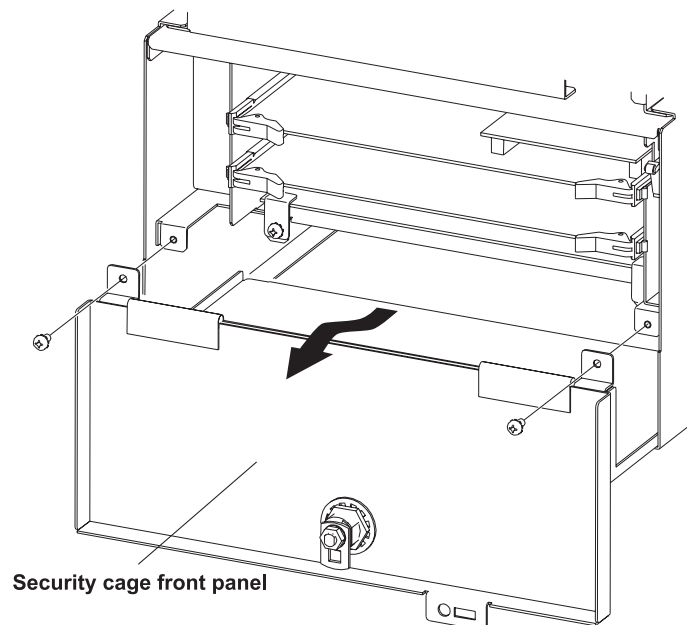

Figure 4-19 Removing the Front Panel of the Security Cage
2. Remove the screws on the left and right sides of the front panel (see *Figure 4-19 Removing the Front Panel of the Security Cage*).